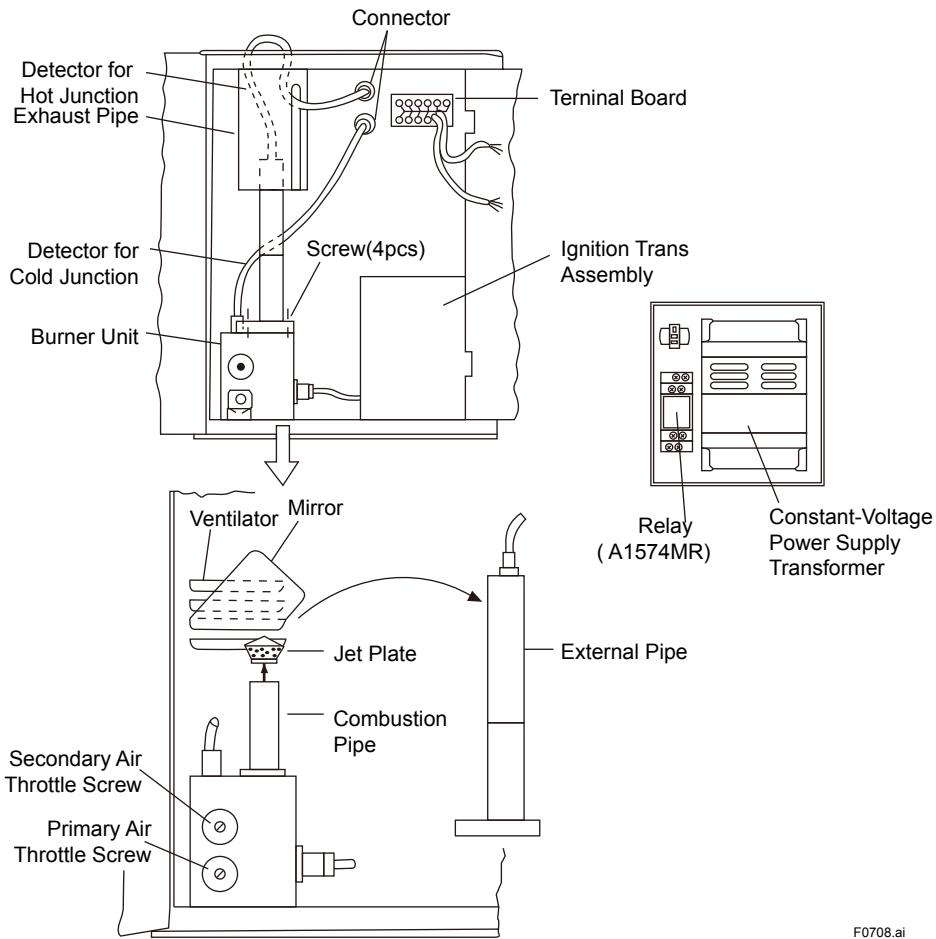

Figure 7.8 Flame Checking
- 2) Disassemble the external pipe and take out the jet plate by pulling upward. (The direction to pull for removal is shown in Figure 7.8 by the sign of arrow).